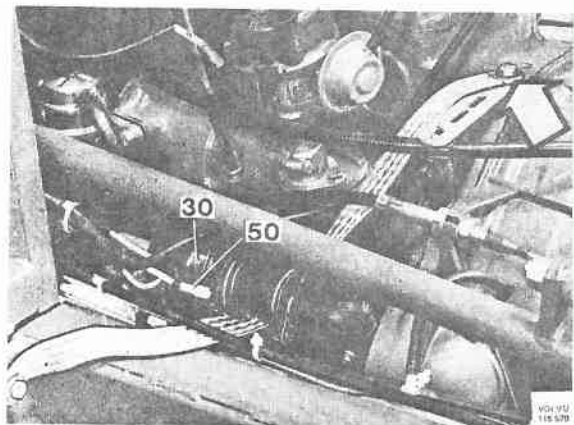

Fig. 33-6. Cable wiring for starter motor
4. Remove the cables from the starter motor and the screw on the engine block securing the earth cable, see Fig. 33-6.